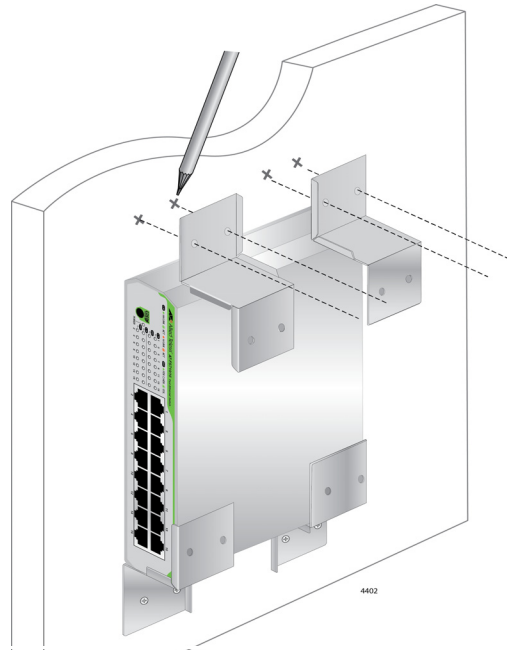

Figure 26. Marking the Screw Hole Locations for the Top Brackets
11. Place the other two brackets on the top of the switch and mark the screw hole locations with a pencil as shown in Figure 26.
17. Install the screws through the bracket holes to attach them to the wall. See Figure 26 on page 48.